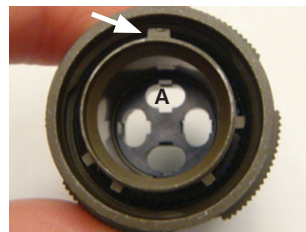

Figure 35: Front view with connector keyway
- On the front side of the connector identify the connector main key keyway (Figure 35).